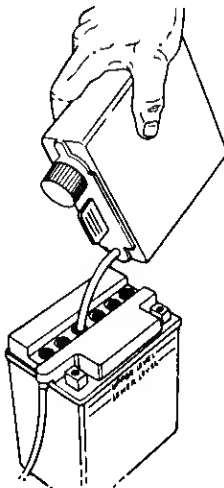

FIGURE 12.
5. Fill each battery cell slowly and carefully to the UPPER LEVEL line marked on battery. See figure 12. Use caution as the acid level will rise rapidly after the bottom of the cell is filled.